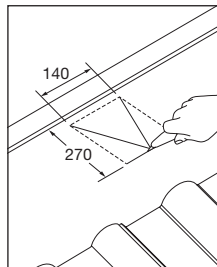

Fig. 1
- 3 Form a 'V' shaped cut in the underlay, 270mm long x 140mm wide – aligned with the centre line of the **overall** width of the tile below – to correspond with the position of the tile vent spigot (Fig. 1).